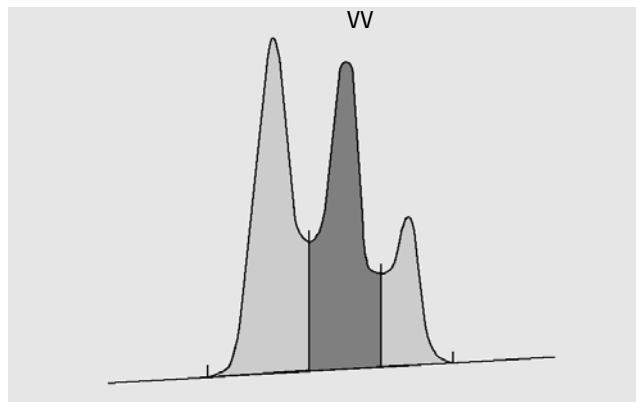

Figure 11 Area Measurement for Valley-to-Valley Peaks
- for valley-to-valley (VV) peaks, the area above the baseline, segmented with vertical dropped lines from the valley points, as in Figure 11 on page 32,